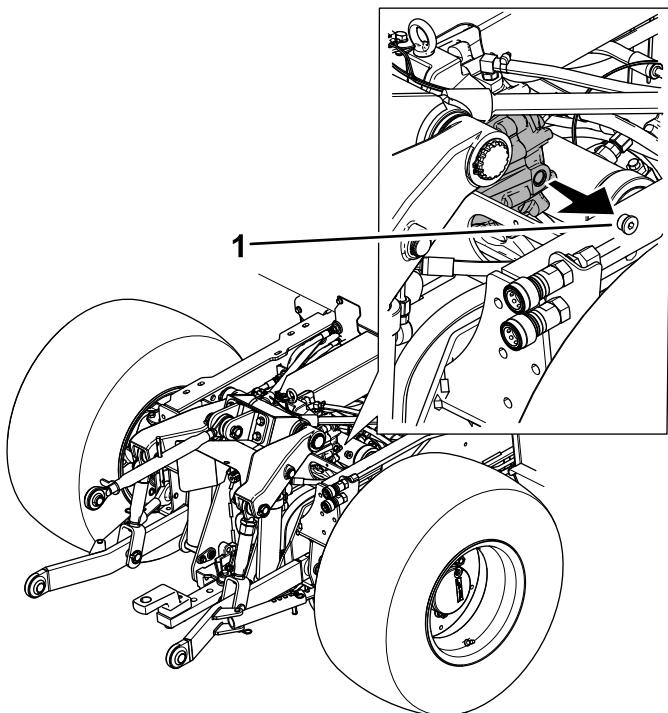

**Figure 106**
5. Remove the fill plug at the top of the brake housing (Figure 106).
- 7. Install the fill plug into the fill port (Figure 106).